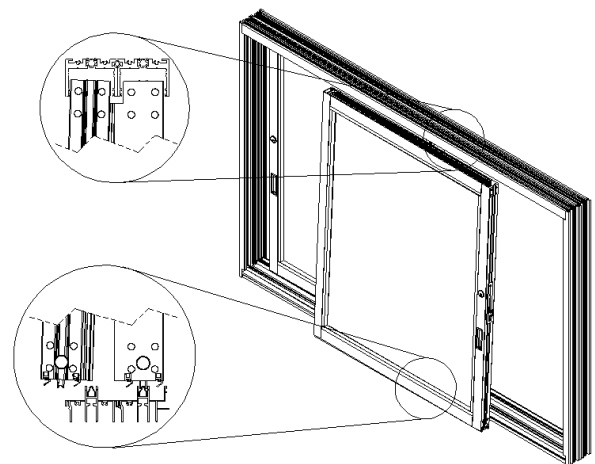

Figure 16:
2. Repeat for remaining panels ensuring the panels interlock properly (Figure 16).